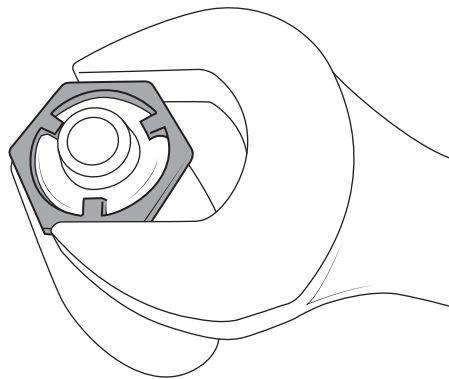

Figure 1
2. Use the supplied tool and a 1 1/16 in wrench to remove the antenna nut (Fig. 1).